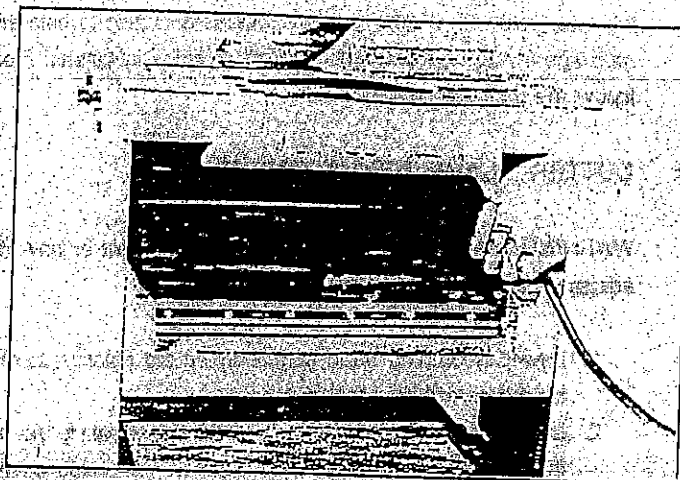

Figure 7
5. Push the stopper located at the right of the cutter block and rotate the belt until the blade binder is at horizontal position (Figure 7).